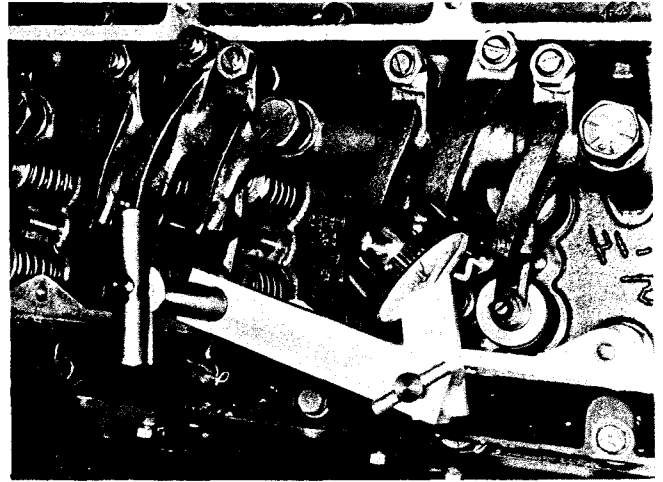

Fig. 2-49, (V514114). Dial indicator in place - extension in contact with plunger
1. Set up the ST-1170 Indicator Support with the indicator extension atop the injector plunger flange at No. 2 cylinder. Fig. 2-49.